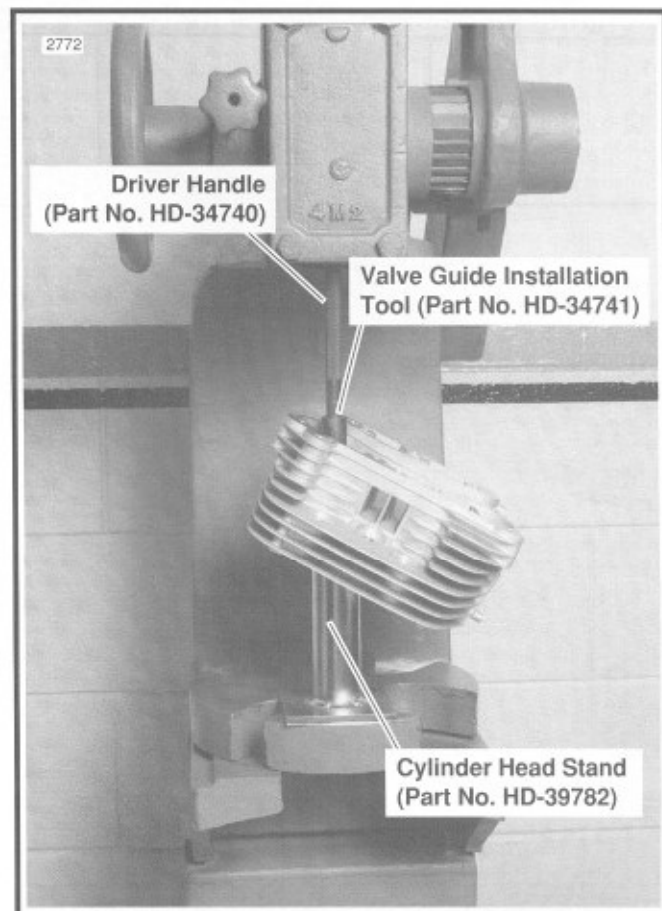

Figure 3-18. Installing Shoulderless Valve Guide
- See Figure 3-18. Install shoulderless guides using VALVE GUIDE INSTALLATION TOOL (Part No. HD-34731) and DRIVER HANDLE (Part No. HD-34740). Press or drive guide until the tool touches the machined surface surrounding the guide. At this point, the correct guide height has been reached.